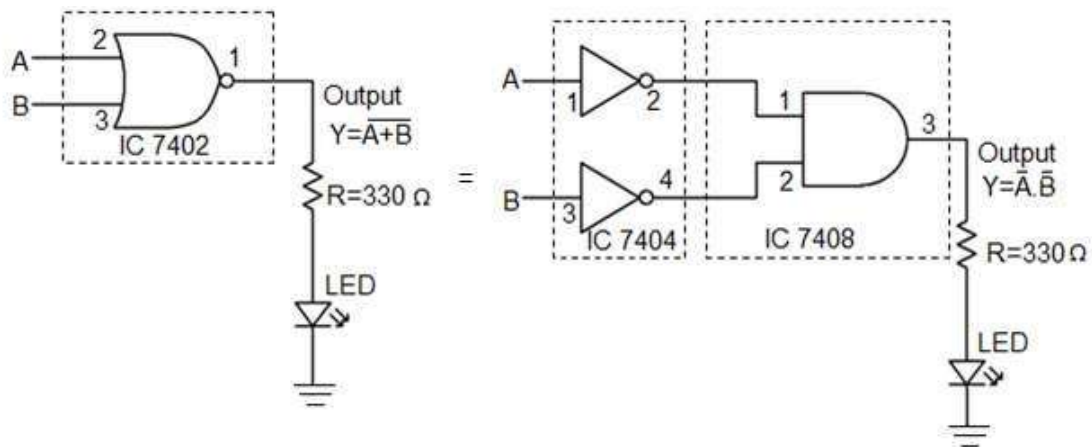

Figure 4.1 De Morgan's first theorem
2. Make the connections as per figure 4.1 on breadboard and give supply voltage to relevant pin as per logic level.